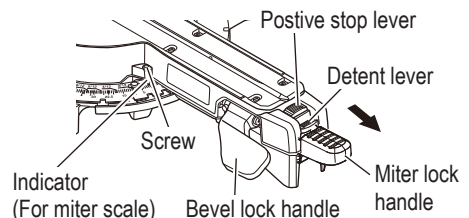

Fig. 19
The slide compound miter saw scale can be easily read, showing miter angles from 0° to 45° to the left and right. The miter saw table has nine of the most common angle settings with positive stops at 0°, 15°, 22.5°, 31.6°, and 45°. These positive stops position the blade at the desired angle quickly and accurately. Follow the process below for quickest and most accurate adjustments. (Fig. 19)
- (1) Push up the miter lock handle to release the turntable.
- (2) Push down the positive stop lever until the detent lever catches on it to release the "positive stop".
- (3) Rotate the turntable and set the indicator to line up with the desired angle of the miter scale. At this time, when using the positive stop function, pull the detent lever in the direction of the arrow near the desired angle as shown in Fig. 19, release the detent lever, and move the turntable to secure it in place at the desired angle via the positive stop function. (0°, 15°, 22.5°, 31.6°, and 45°)
- (4) Push down the miter lock handle to secure the turntable in place.
Detent lever (Fig. 19)